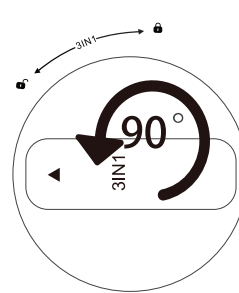

Figure 6
4. Rotate the old filter element 90° counter-clockwise, so the triangle icon on top of filter element is pointed at  icon, take out the old element See **Figure 6**.